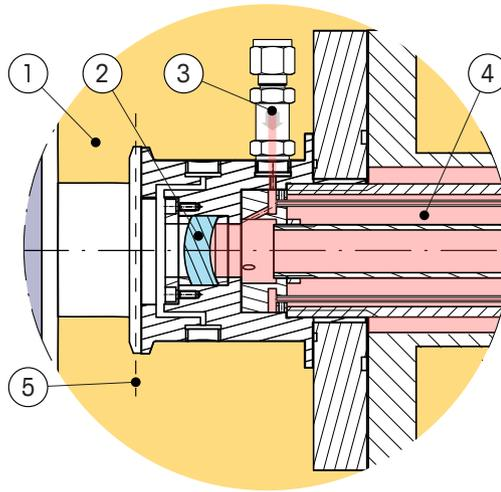

Figure 55 The GPro 500 Interface between Zone 0 and Zone 1
- 8 For detailed cross section view – see Figure 55 (The GPro 500 Interface between Zone 0 and Zone 1) on page no 84